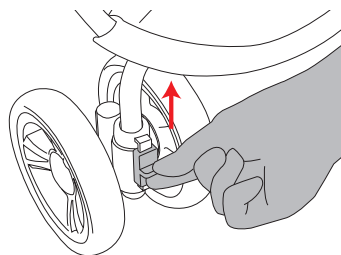

**Figure 11**
- Orient the stroller so it is resting on the rear wheels and the handlebar. Locate one front wheel set and orient the wheel set with the swivel lock facing upward. Insert it onto a plastic post located at the bottom front on one side of the stroller until an audible click is heard. See Figure 11.